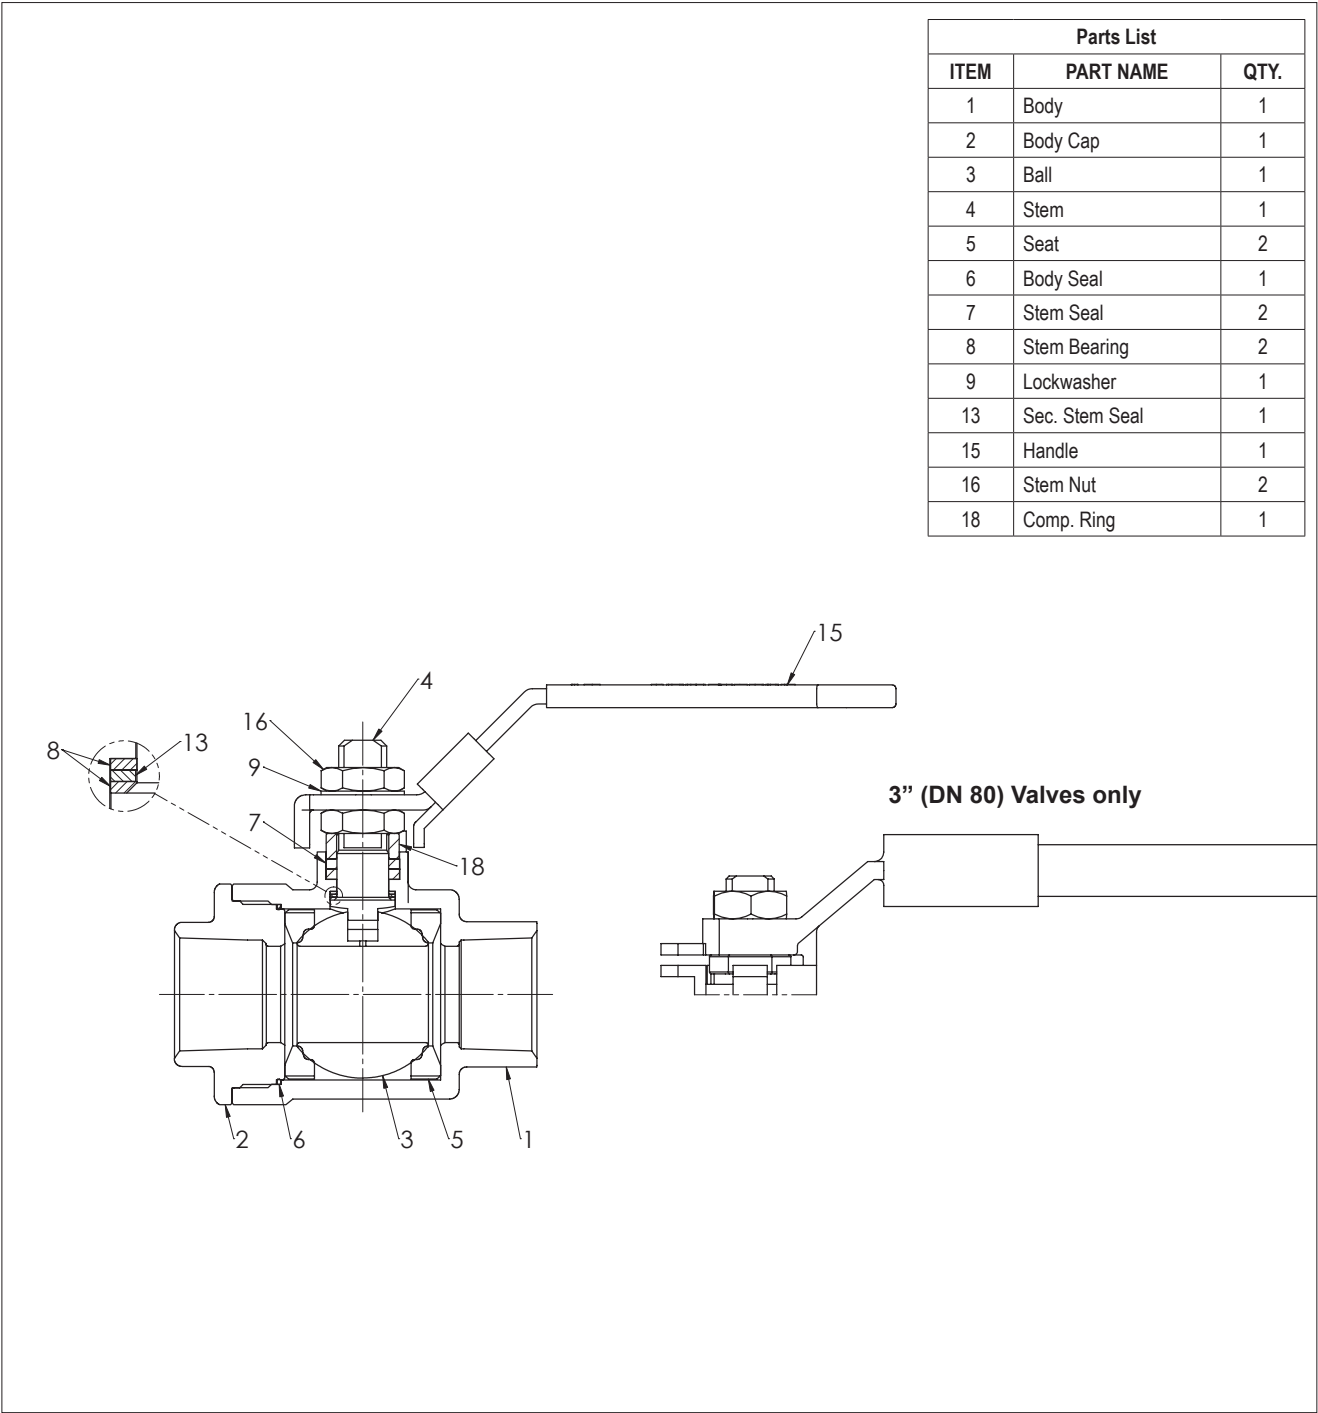

Figure 5.
If the Series 6F valve handle (15) has to be removed for any reason, the handles must be remounted with the handle stop tang as shown in **Figure 5**.
Good operating procedure requires periodic observation to ensure that the valve is functioning well. The frequency of observation will depend on the application. Routine maintenance consists of tightening the lower stem nut (16) 1/4 turn periodically to compensate for wear caused by the stem turning against the seal. Loosen the upper stem nut (16) on top of the handle (15) before tightening the lower stem nut. Retighten the upper stem nut after tightening the lower stem nut. (See **Figure 5**)
- c. From **Figure 5**, the ballooned part number, part name and quantity required.